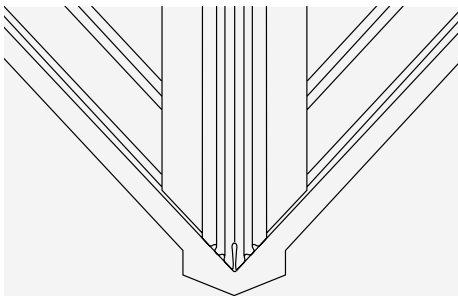

Fig. 5 – Fixing the valley trough
- 5 Fix dry valley trough by nailing outer welts to supporting timbers at 500mm max, centres, and overlapping lead (Code 4) apron by a minimum of 150-200mm (Fig. 5).